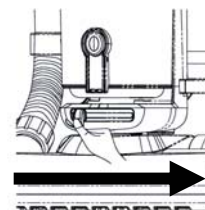

Fig. 11
1. To remove the dust cup container, turn the dust cup release lever to the right. (Fig. 11)